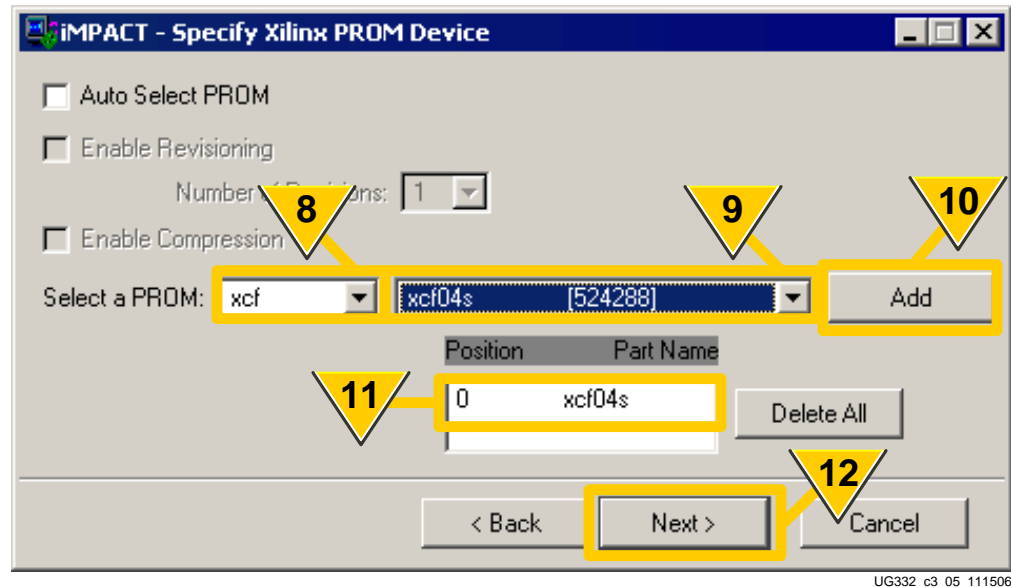

Figure 3-10: Select Platform Flash PROM
8. As shown in Figure 3-10, select the **xcf** (Platform Flash PROM) family from the drop-list.
9. Select the desired Platform Flash part number. The example in Figure 3-10 shows an XCF04 PROM, which stores up to 4 Mbits, or 524,288 bytes.